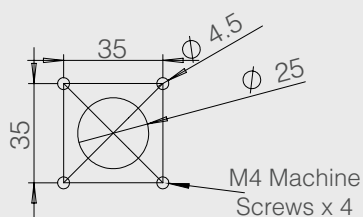

Fig 1
3. Drill four holes of 4.5mm diameter in a square pattern at 35mm centres and mount the handset base using M4 machine screws (**Fig 1**).